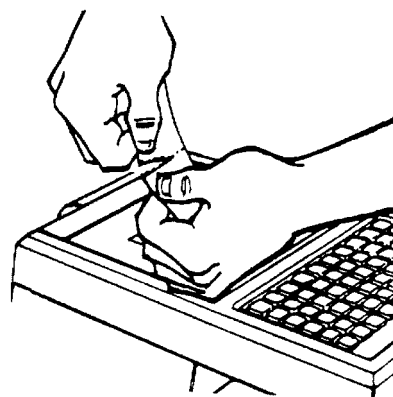

Figure 26. Removing Marker from Printer
- a. Press FEED to move last printed sleeve above tear bar and tear sleeve along perforation to remove from printer (Figure 26).